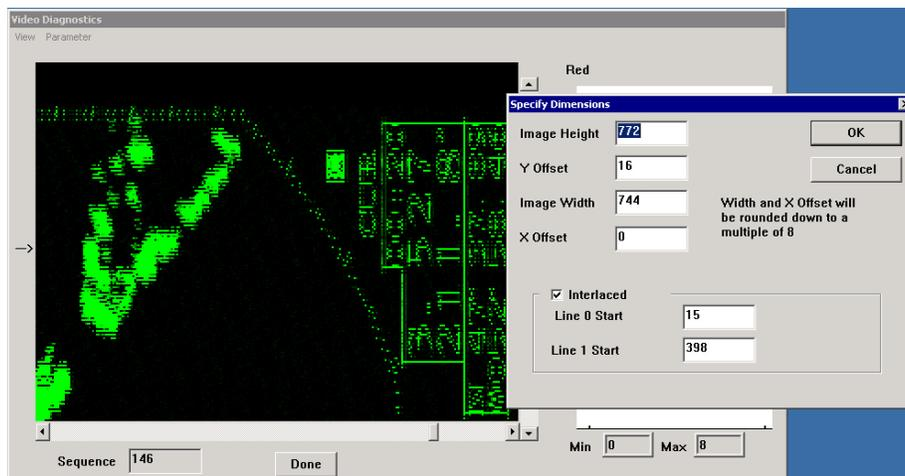
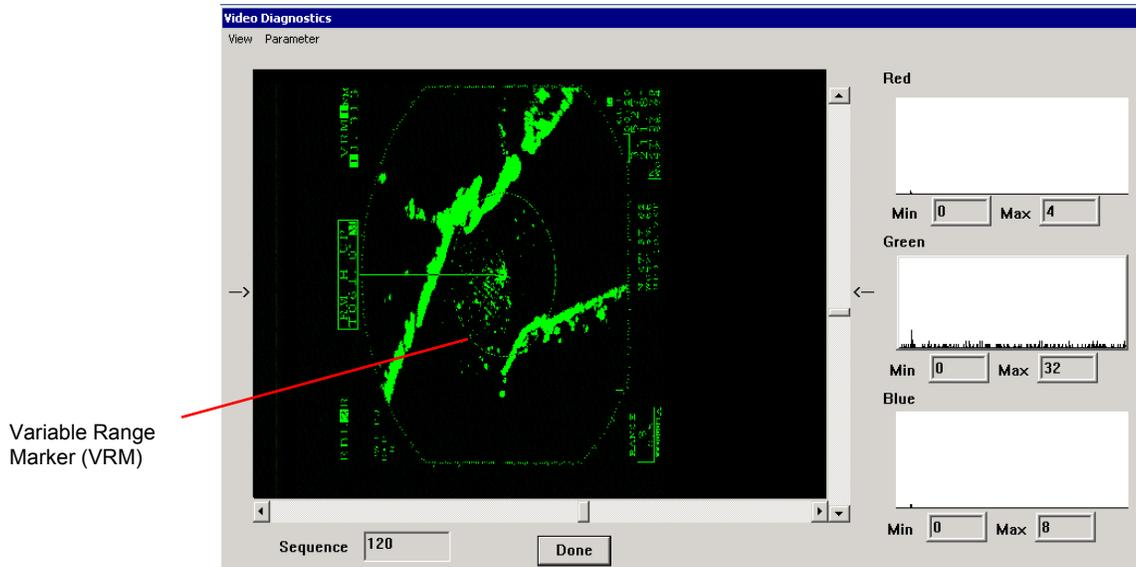

Figure 10-13 - Incorrect Interlacing
Figure 10-14 - Corrected Interlaced Image
- Once the pixel coordinates have been entered the image will appear corrected (see *Figure 10-14 - Corrected Interlaced Image* for an example.) If the image does not appear corrected, it is highly likely that the wrong pixel coordinates were entered in Step 6 above. Looking at numbers that appear in the image give a good indication of the quality of the corrected image (see *Figure 10-13 - Incorrect Interlacing* for an example.) If the image has been interlaced incorrectly, enter the coordinates used prior to Step 6 and repeat Steps 4 to 7.
- A Variable Range Marker (VRM) or Range Rings, available on most radar images, will provide an effective circular image that can be used for recalibration. See *Figure 10-14 - Corrected Interlaced Image* for an example of a VRM.